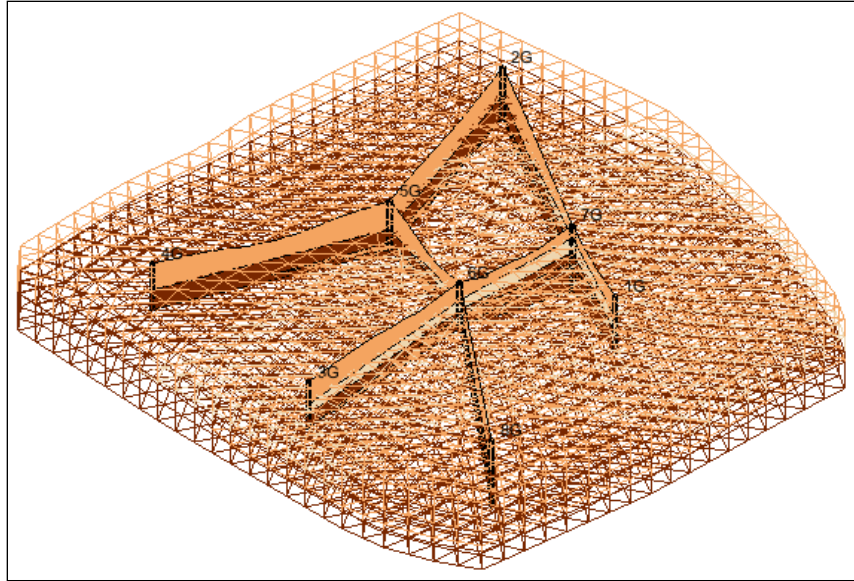

Figure 2 After solids have been created
6. Click **Finish** to close the *Horizons to Solids* dialog. GMS will now create the solids and the Main Graphics Window should appear similar to Figure 2.